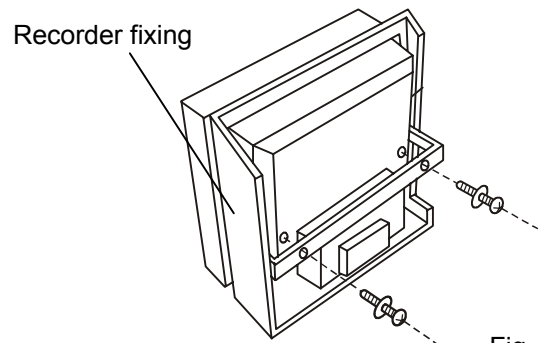

Fig. 2
4. Fix the temperature recorder to the frame in the recorder fixing (MPR-S30) referring to the instruction manual enclosed with the recorder fixing. [Fig. 2]
4. Fix the recorder to the recorder fitting in the recorder fixing (MPR-S7) referring to the instruction manual enclosed with the recorder fixing. [Fig. 2]
2. Release the harnesses from the clip fixed to the back side of the top cover. [Fig. 2]